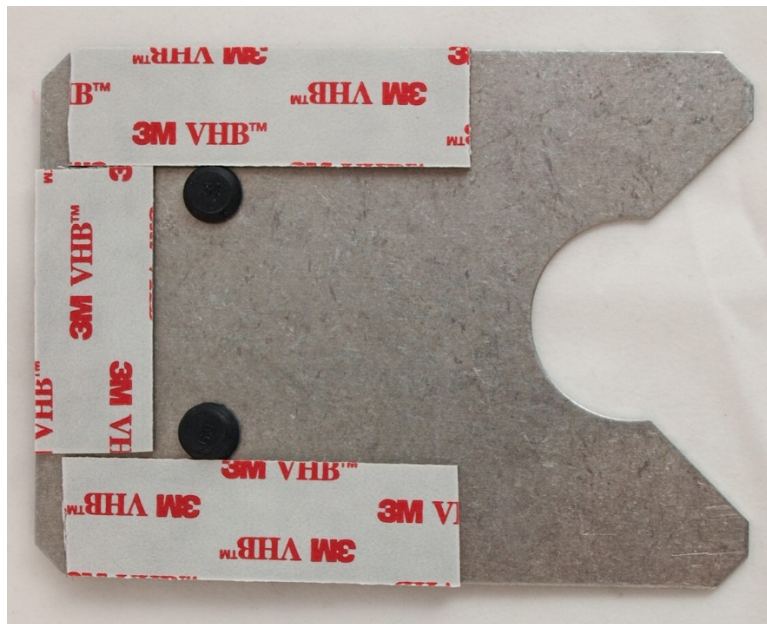
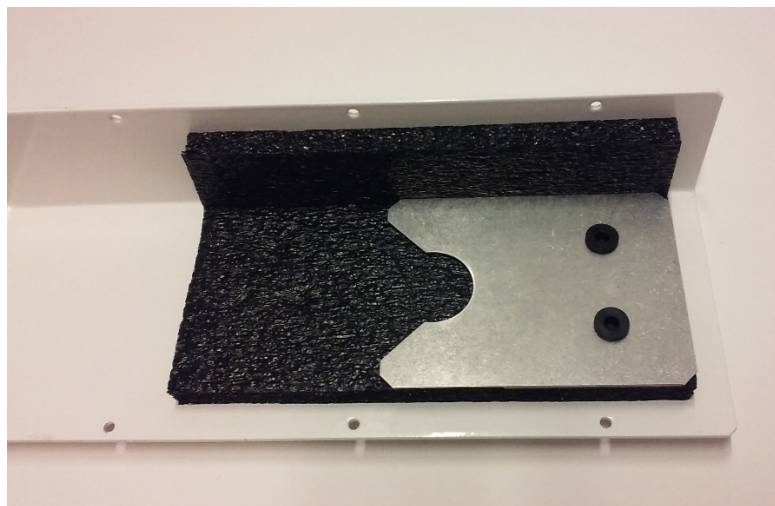

FIGURE H-6. New inner plate with adhesive tape
FIGURE H-7. New inner plate placement on pump module cover
7. Remove the paper from the back of the adhesive tape on the new inner plate (FIGURE H-6) and adhere to the foam in the same location as the original plate paying attention to the direction of the notch (FIGURE H-7).